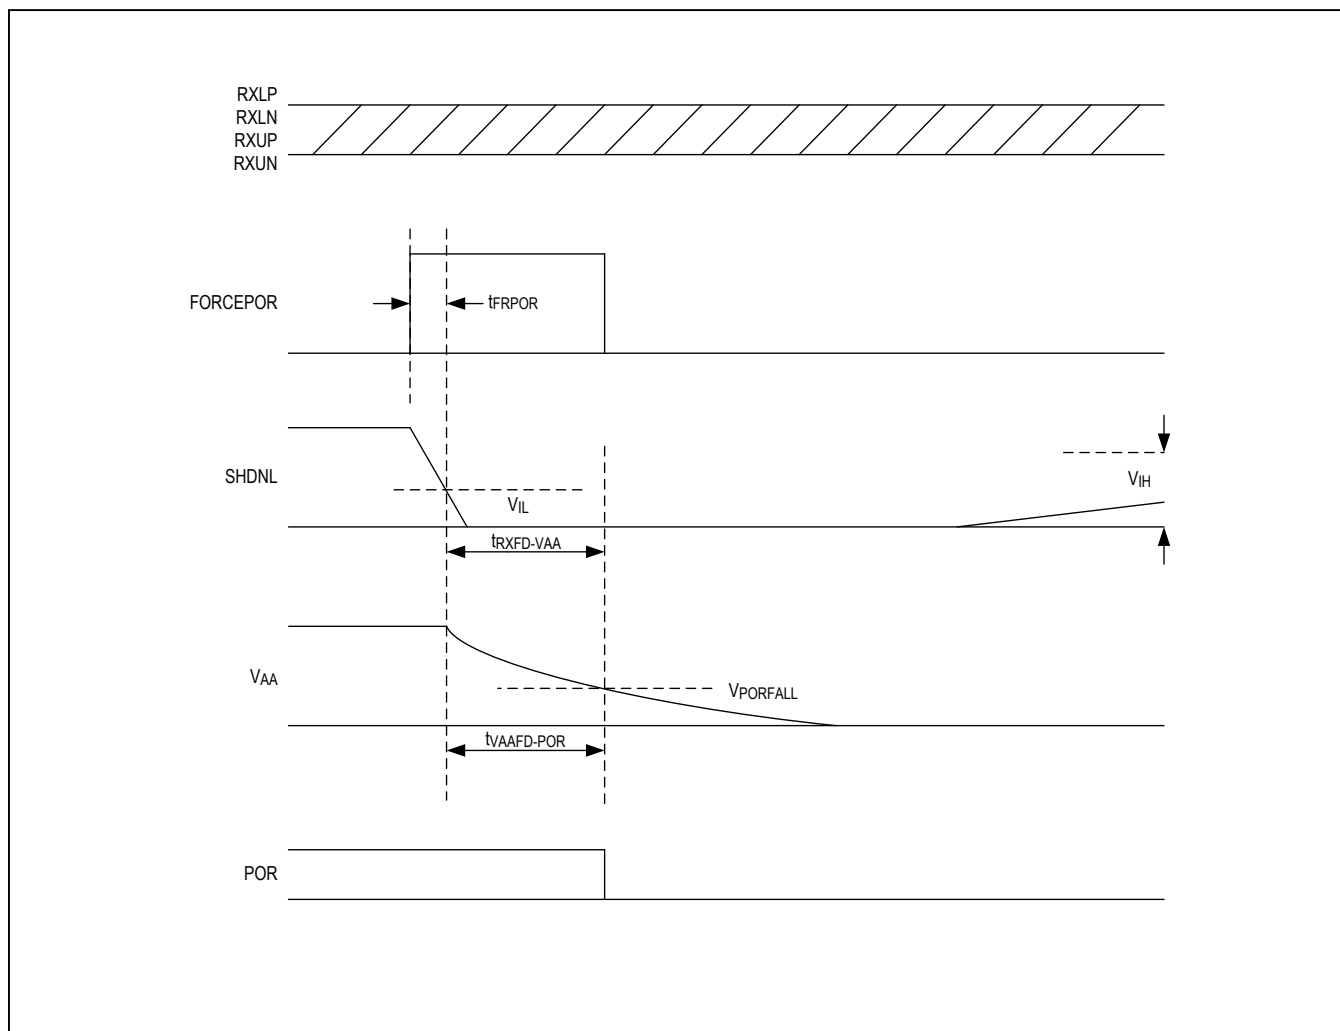
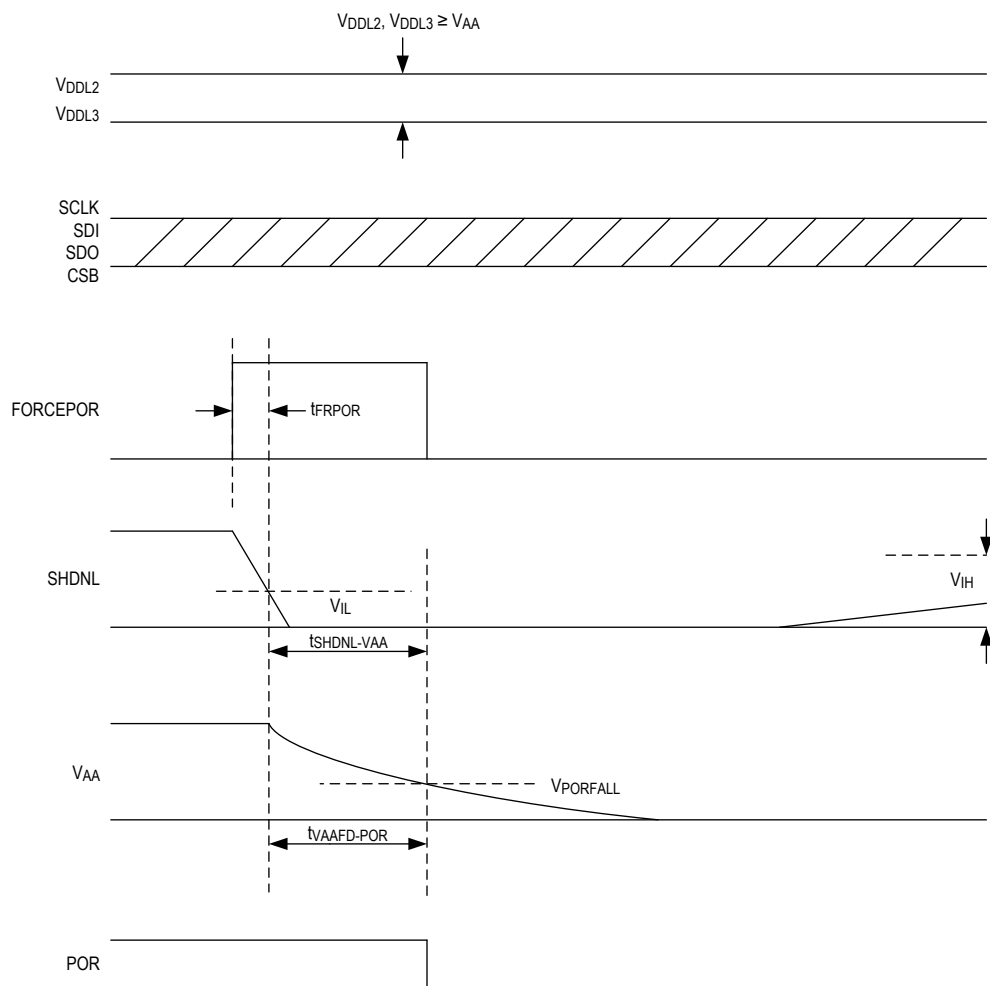

Figure 14. UART Operation (Shutdown Timing)
Figure 15. SPI Operation (Shutdown Timing)
**Note:** As shown in Figure 14 and Figure 15, the shutdown can also be controlled by writing the specific FORCEPOR bit. If SHDNL is actively driven, the application circuit should ensure there is no contention and this is driven below  $V_{IL\_SHDNL}$ .